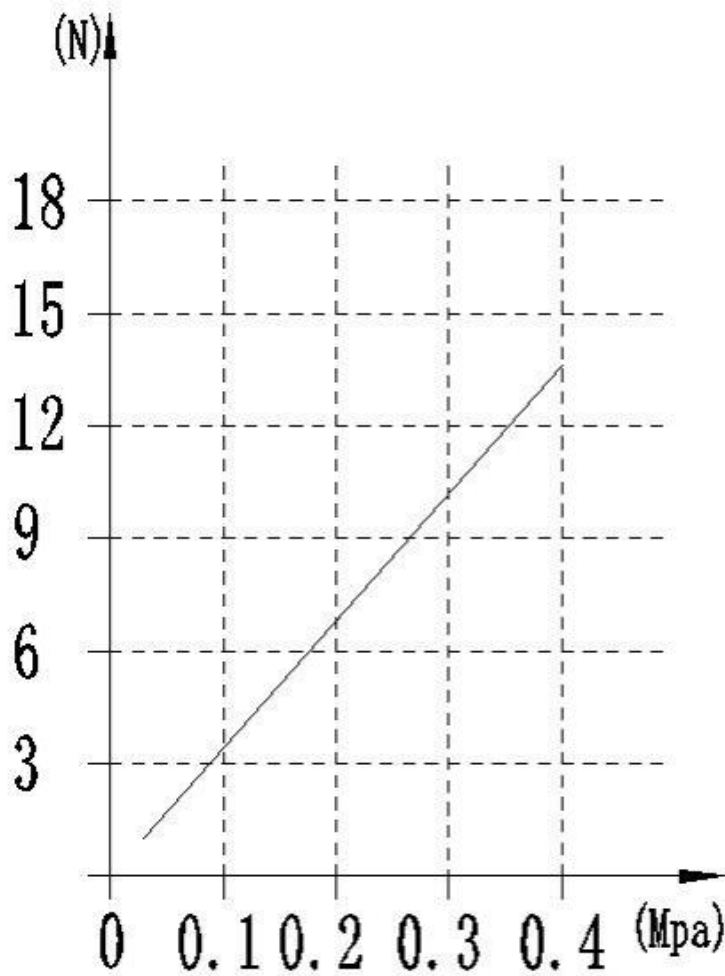

Figure 7-1 Floating force change diagram
1. The graph in Figure 7-1 illustrates the change in flotation force with applied air pressure in the vertical direction, with the chuck pointing toward the ground. The measurement may vary from 0Mpa to 0.4Mpa and converts applied pressure into floating force. Actual force characteristics depend on the installation orientation and conditions of the device. In applications where the deburring tool is mounted horizontally, applying air pressure requires overcoming the weight of the motor. The amount of floating force also depends on the material of the workpiece, the type of